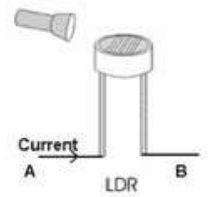

Fig.2
**In Fig.2** In darkness, the LDR's resistance increases, reducing the current flow.